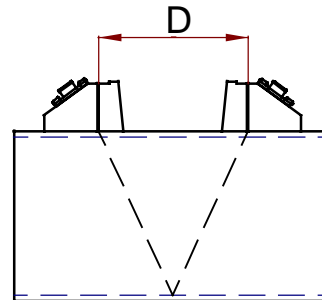

figure 2
- ⇒ For both modes, distance **D** (cf. *fig.2*) is measured from the marks engraved on the probe.